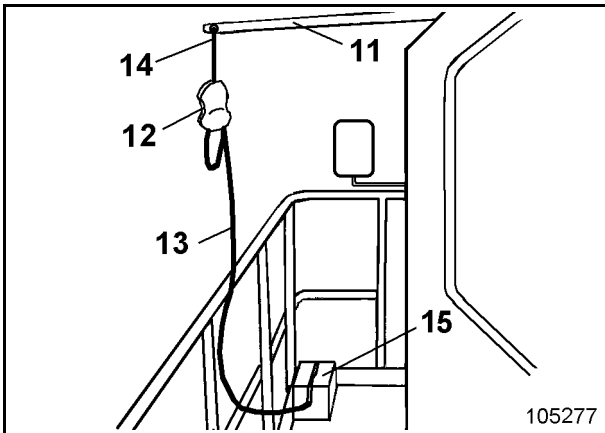

Fig. 2-34:
- Take harness out of handbag (15, Fig. 2-34:)